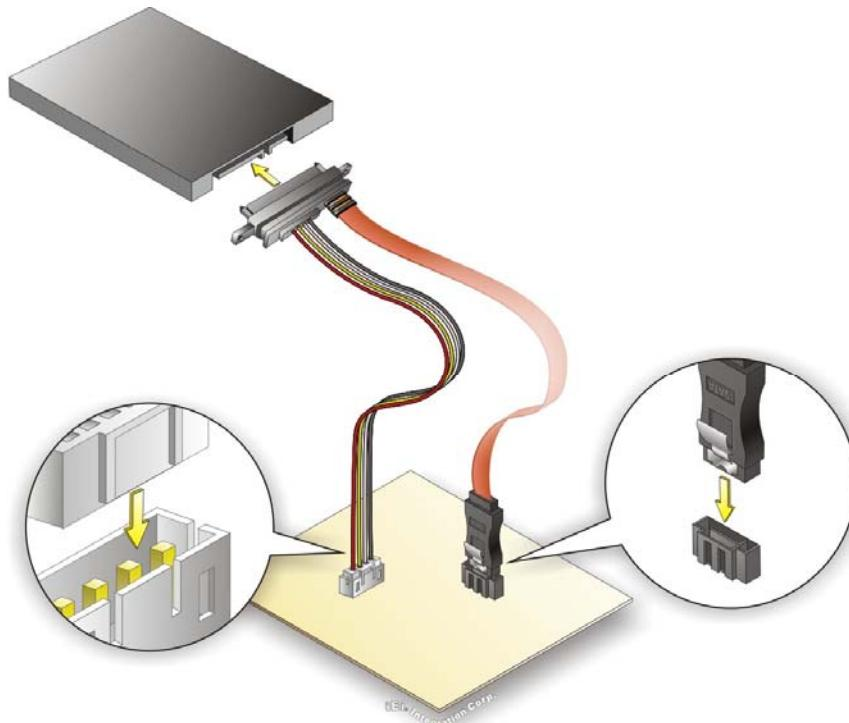

Figure 4-8: SATA Drive Cable Connection
Step 2: Insert the cable connector. Insert the cable connector into the on-board SATA drive connector and the SATA power connector. See **Figure 4-8**.
Step 3: Connect the cable to the SATA disk. Connect the connector on the other end of the cable to the connector at the back of the SATA drive. See **Figure 4-8**.